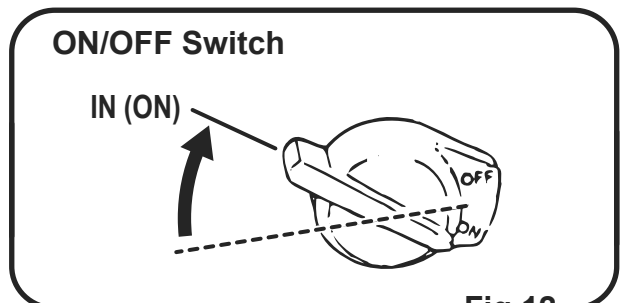

Fig.12
4. Turn engine start switch to ON position. (Fig.12)